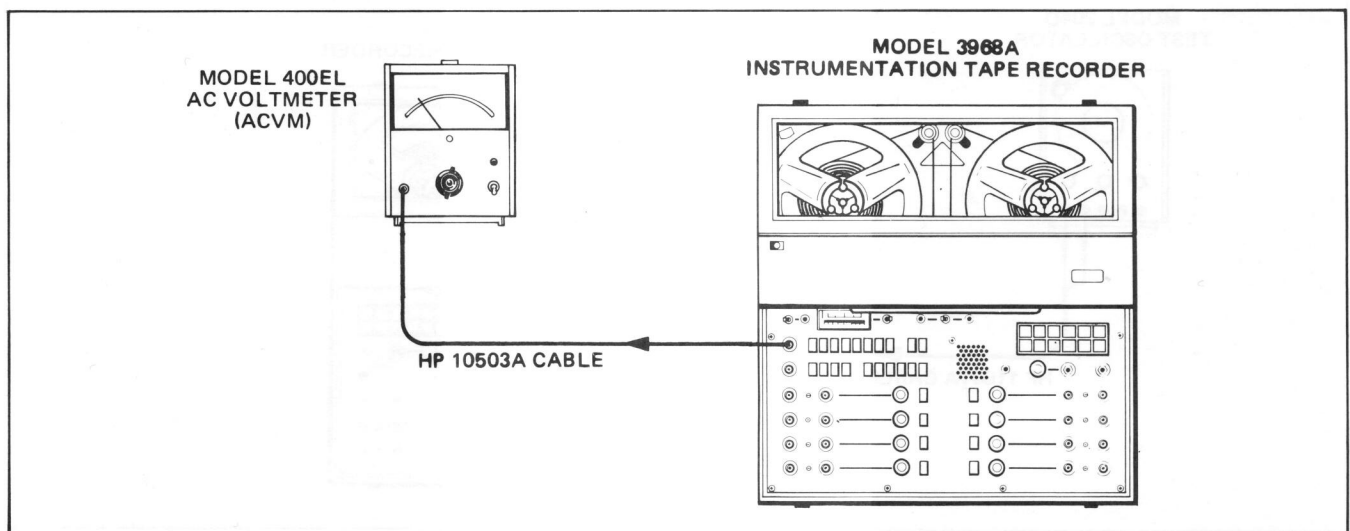

Figure 5-9. FM Signal-To-Noise Ratio Test Setup
- f. Connect the ACVM to the OUTPUT MONITOR jack on the front panel. Use the 0 dB (1V) range on the ACVM (see Figure 5-9).